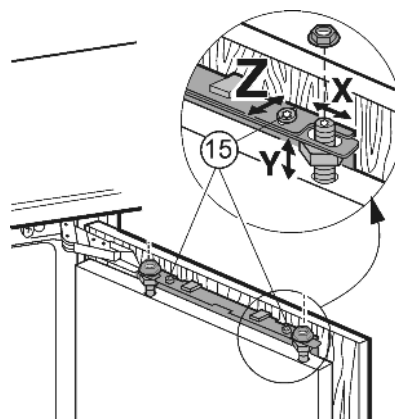

Fig. 20
- ▶ Adjust the depth of the unit door (Z): Undo the screws Fig. 20 (15) at the top and screws Fig. 21 (24) at the bottom, then move the door.